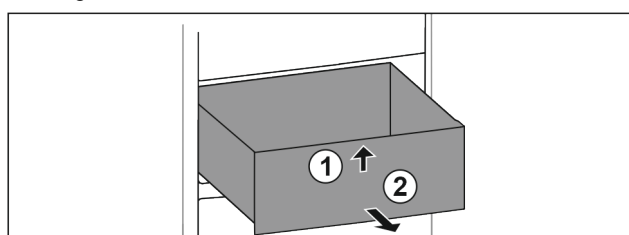

Fig. 94
- Lift up drawer at the front. Fig. 94 (1)
- Remove drawer to the front. Fig. 94 (2)